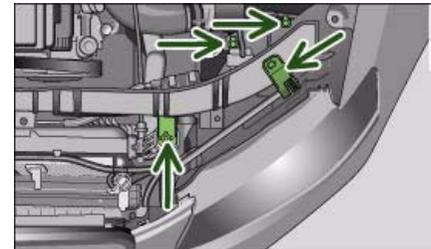

Fig. 289 Headlight unit: Attachment points are marked by arrows
- Slacken the two screws that secure the headlight to the lock carrier and the two screws at the underside of the headlight (the screws at the underside should not be slackened more than five turns) ⇒ *page 306*, fig. 289.